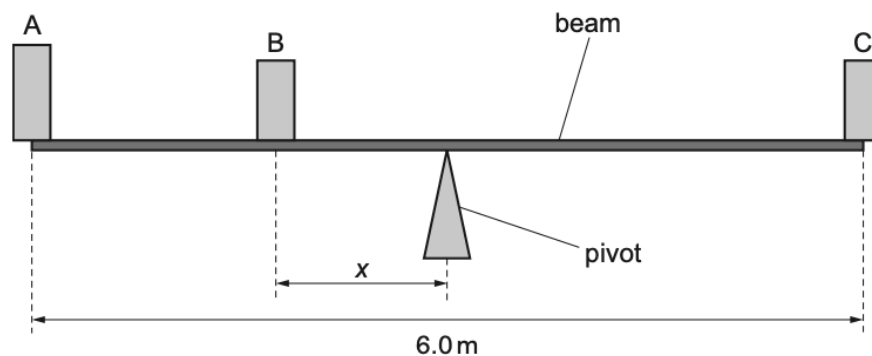

Fig. 2.1 (not to scale)
- (b) Three objects A, B and C are placed on a horizontal beam. The beam is in equilibrium, as shown in Fig. 2.1.